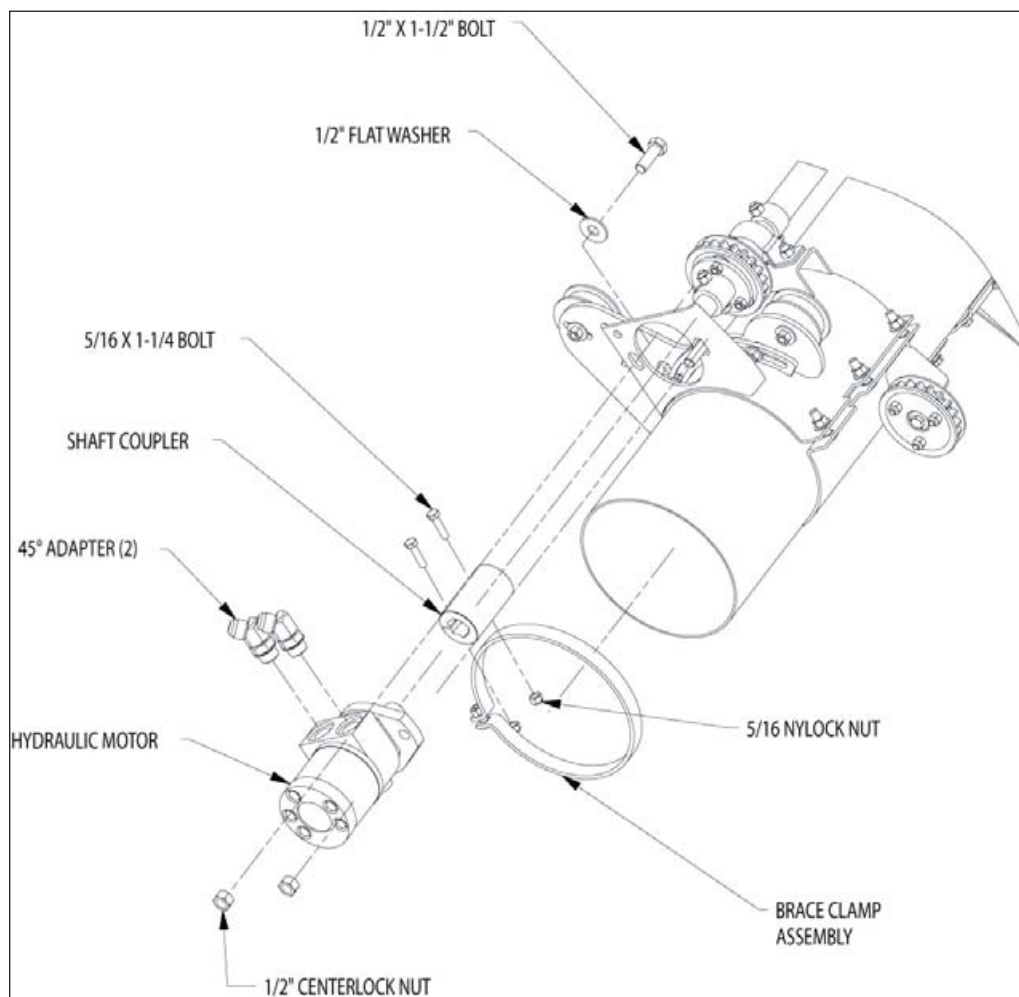

Figure 32, Hydraulic motor installation
2. Slide the shaft coupler onto the driveshaft (Figure 32).